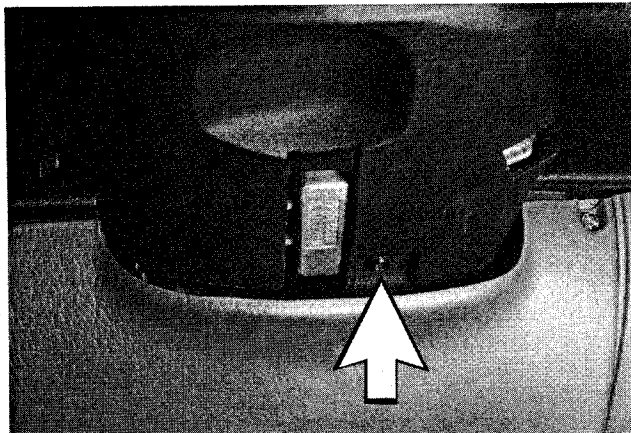

Fig. 1. Lower steering column cover retaining screw (arrow).
5. Remove lower steering column cover from steering column. See Fig. 1.
3. Remove screw retaining lower steering column cover and remove cover. Refer to Fig. 1.